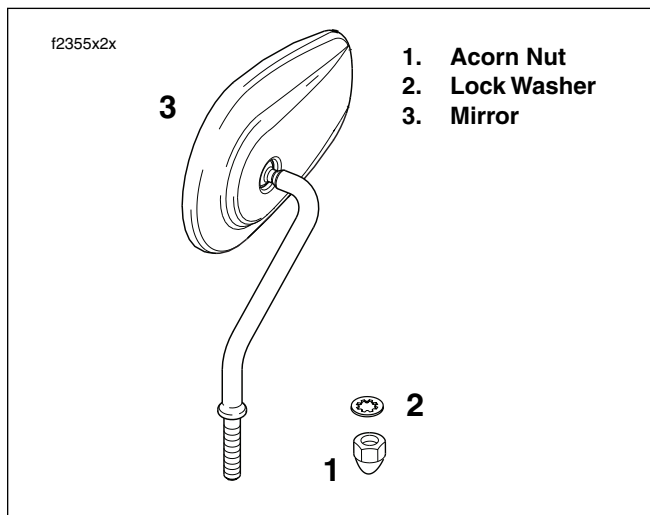

Figure 2-126. Mirror Assembly (All Models Except FLHX)
1. Remove acorn nut and lock washer. Remove threaded stem of mirror from hole in clutch or brake lever bracket. See Figure 2-126.